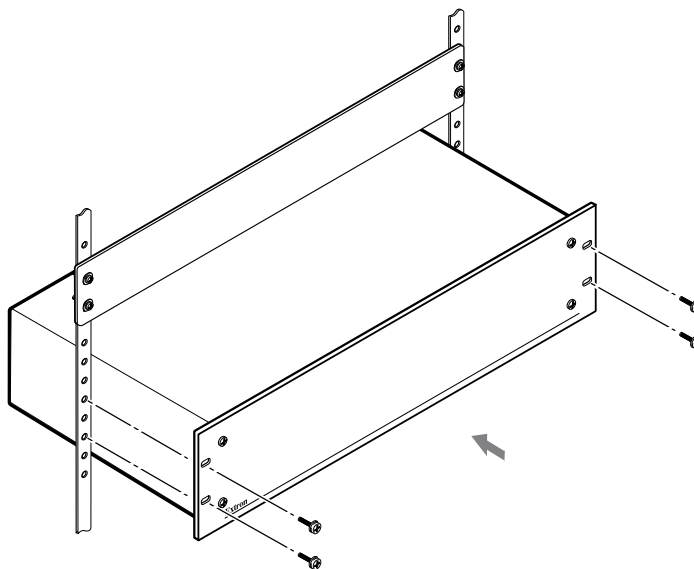

Figure 2-1 — Installing the switcher in a rack
The following Underwriters Laboratories (UL) guidelines pertain to the installation of the MPX switcher into a rack (figure 2-1).
1. Insert the switcher into the rack, aligning the holes in the mounting bracket with those in the rack (figure 2-1).